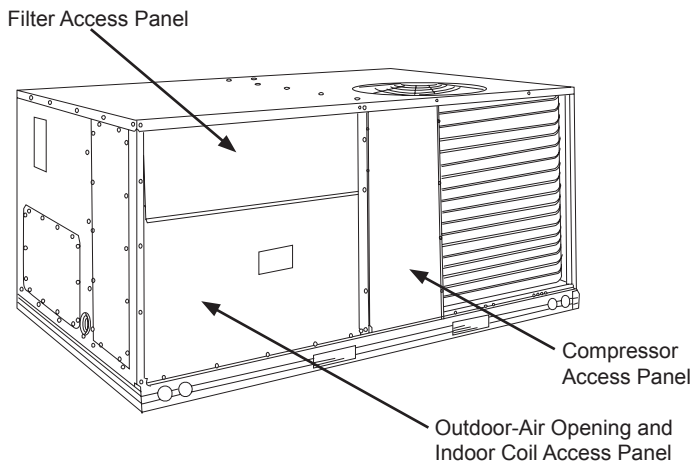

Fig. 2 - Typical Outdoor-Air Section Access Panel Locations
2. Remove the existing unit filter access panel. Raise the panel and swing the bottom outward. The panel is now disengaged from the track and can be removed. (See Fig. 2.)
3. Remove the indoor coil access panel and discard. (See Fig. 2.)